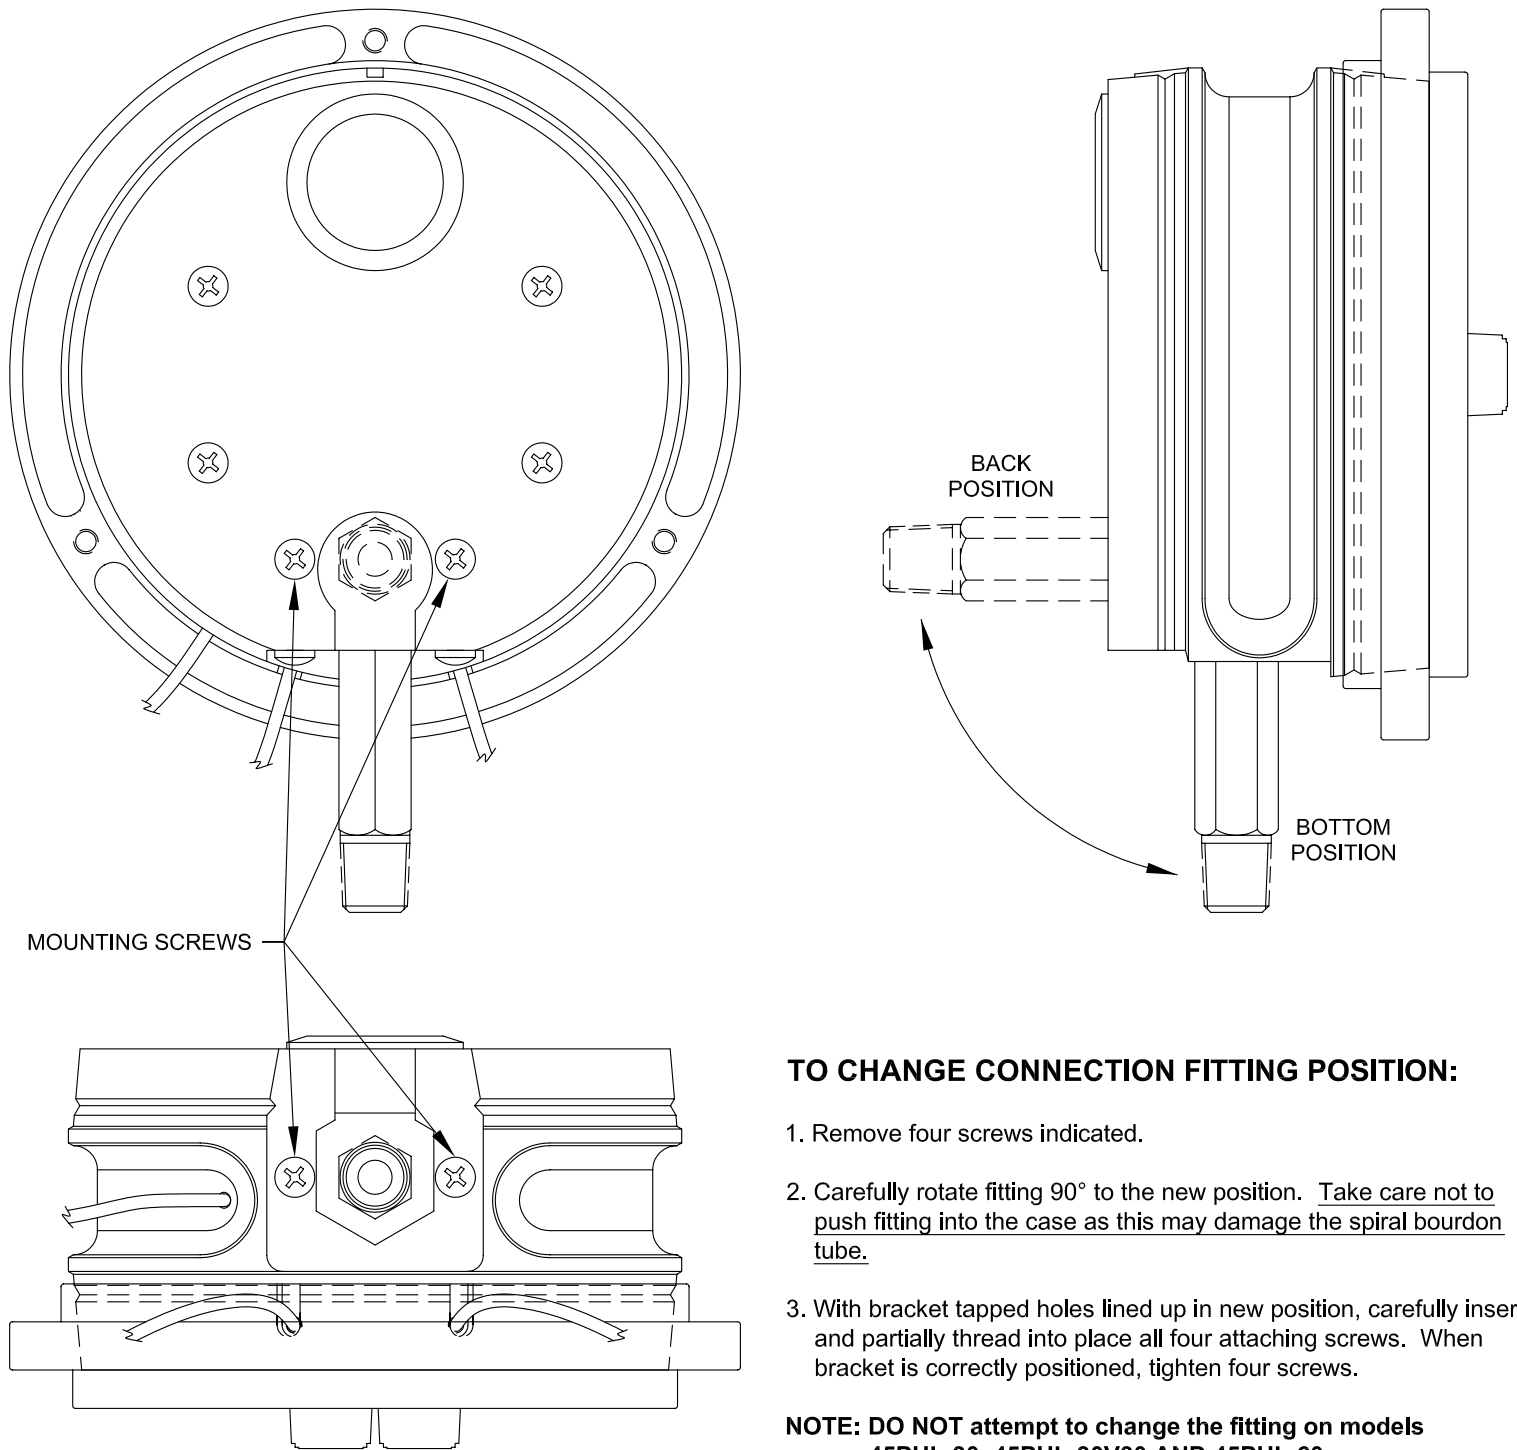

Figure 2
- 1.2 The pressure connection fitting is user adaptable on most models for either a bottom or a back connection - see paragraph 2.2 and figure 2 for details. The fittings are 1/4" NPT male up to 1000 psi and 1/2" male for 1500 psi and above. The gauge has a removable flange which can be used to front mount or back mount the gauge. The gauge can also be direct mounted.
**NOTE: See figure 2 to change the position of the pressure connection fitting.**